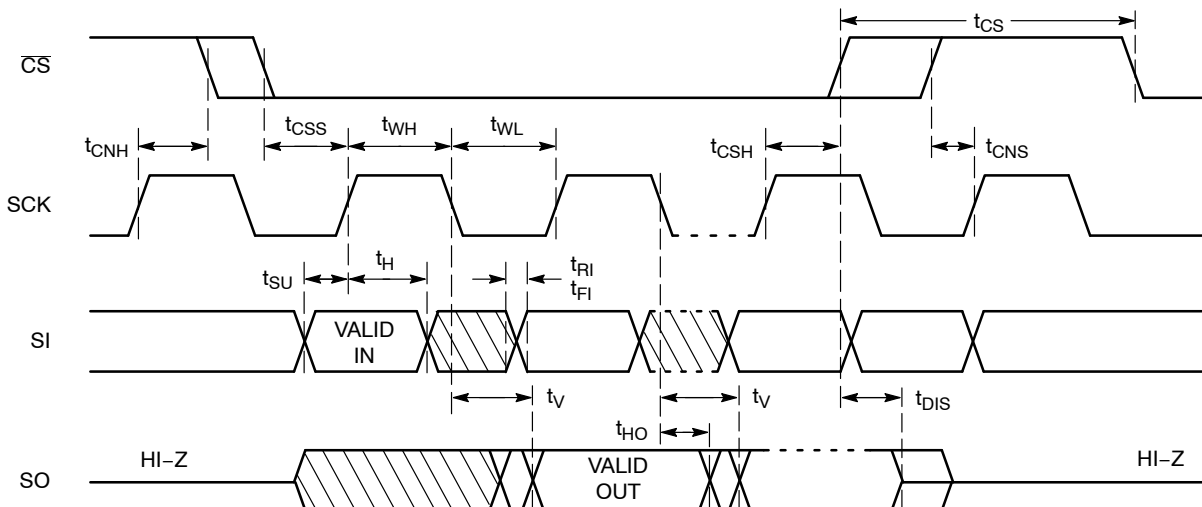

Figure 2. Synchronous Data Timing
8. All Chip Select (CS) timing parameters are defined relative to the positive clock edge (Figure 2). t_{CSH} timing specification is valid for die revision D and higher. The die revision D is identified by letter “D” or a dedicated marking code on top of the package. For previous product revision (Rev. C) the t_{CSH} is defined relative to the negative clock edge (please refer to data sheet Doc. No. MD-1006 Rev. U)
After a high to low transition on the $\overline{\text{CS}}$ input pin, the CAT25010/20/40 will accept any one of the six instruction op-codes listed in Table 9 and will ignore all other possible 8-bit combinations. The communication protocol follows the timing from Figure 2.